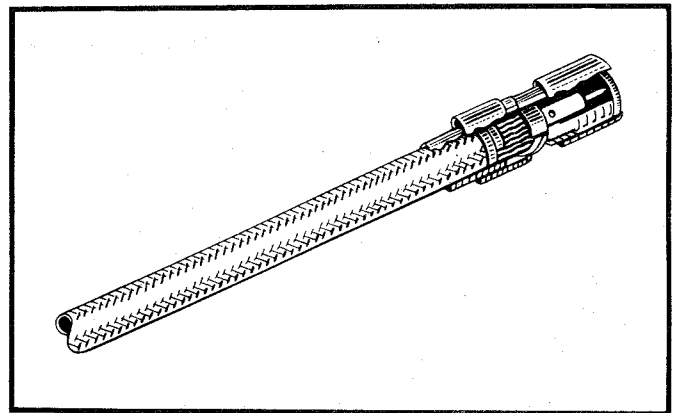

Figure 70
(13) Completed assembly shown in section. See Figure 70.